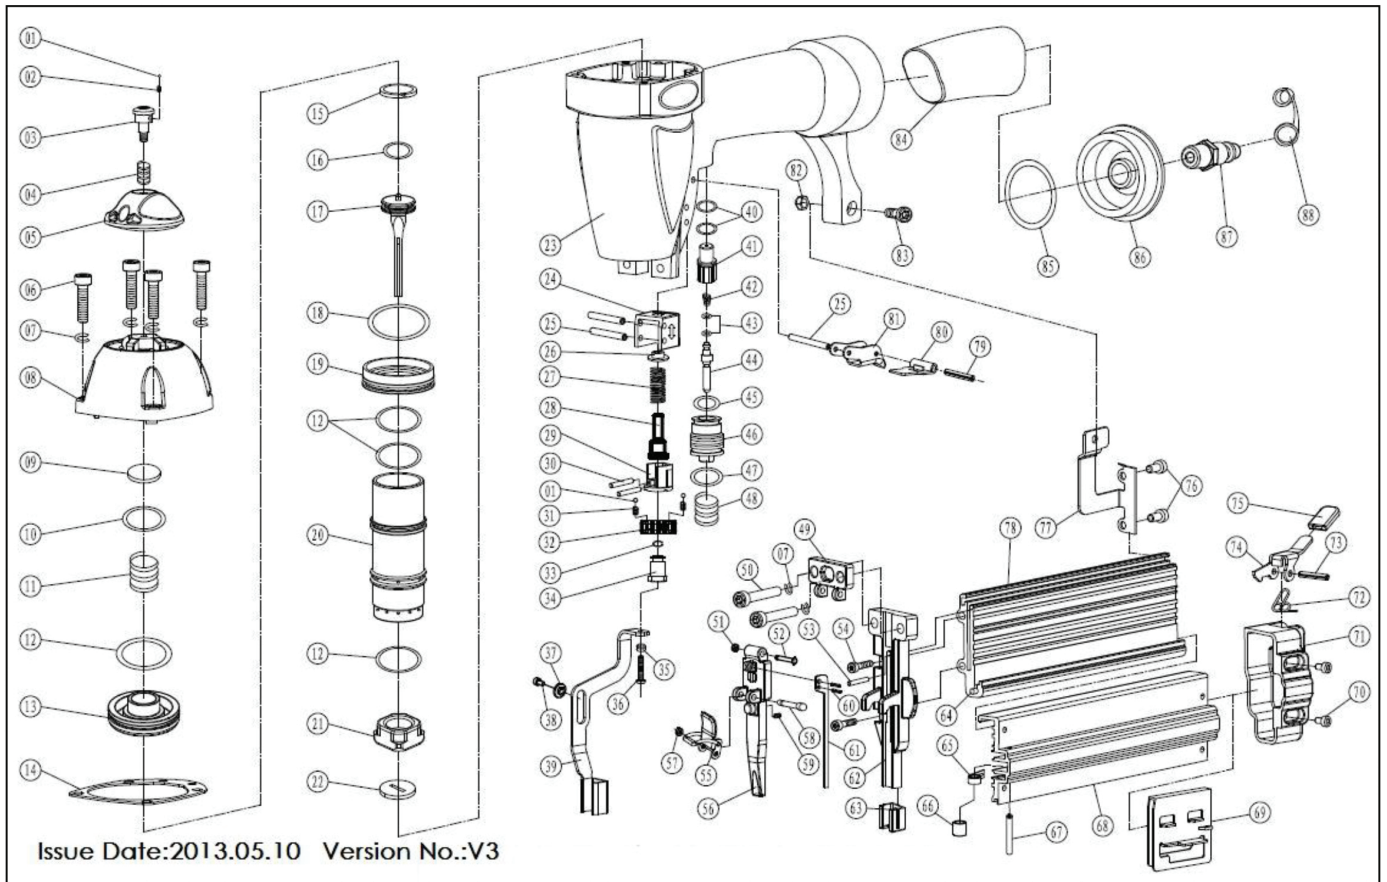

Figure 5
7. Explode Drawing (See Figure 5)